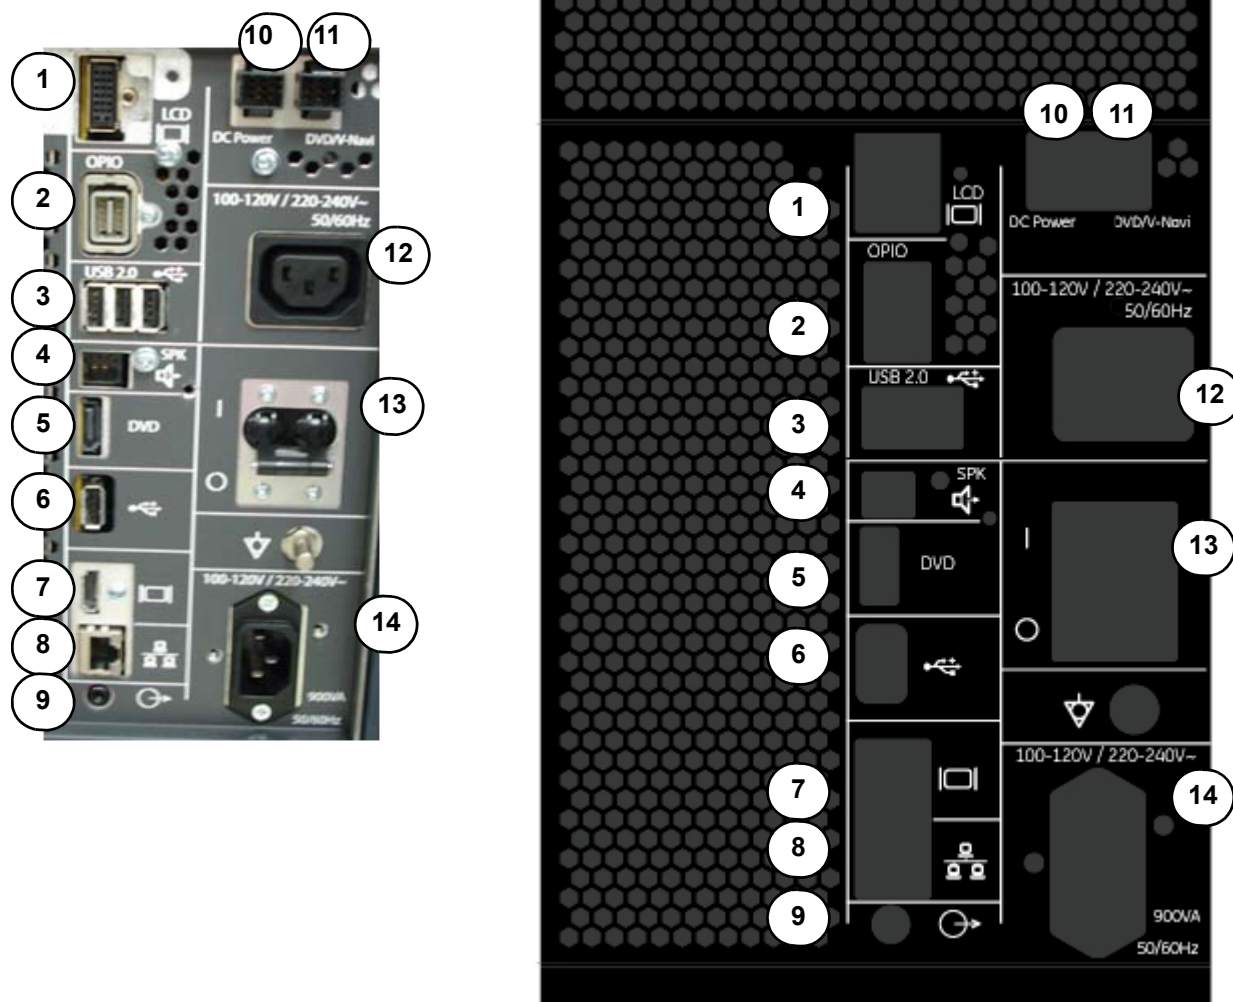

Figure 8-38 Cable Connection
- 2.) Disconnect 2 connectors. (DVD SATA CABLE, DVD POWER CABLE). Refer to the Figure 8-38 below.